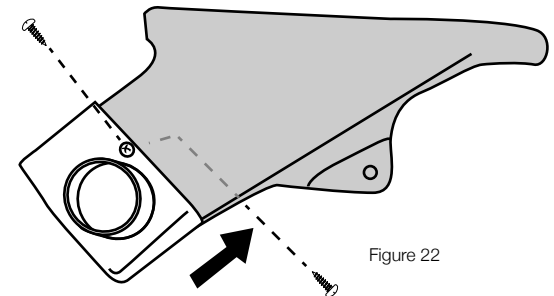

Figure 22
**BAG KIT E:** Place defrost duct on work bench. We've included templates for modifying both sides of the duct... cut out and tape the templates in place over the duct. Cut the defrost duct into two pieces as indicated, discarding the lower half. Using the  $\frac{1}{4}$ " x  $\frac{1}{2}$ " open cell foam we've included, apply foam over the ends of the duct edge before installing the appropriate adapters. Pre-Drill duct with a  $\frac{5}{32}$ " drill bit on both sides of the duct. Attach the adapter to the duct using two #10 x  $\frac{5}{8}$  PHP screws (figure 22)